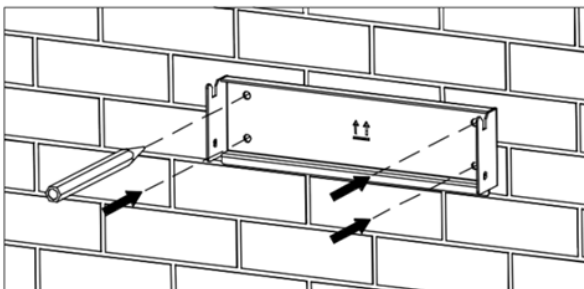

Figure 11A: Mark the hole position
1. Use the punch positioning plate in the packaging box to determine the punch position as shown in Figure 11A. Level the holes with a level ruler and mark them with a marking pen.